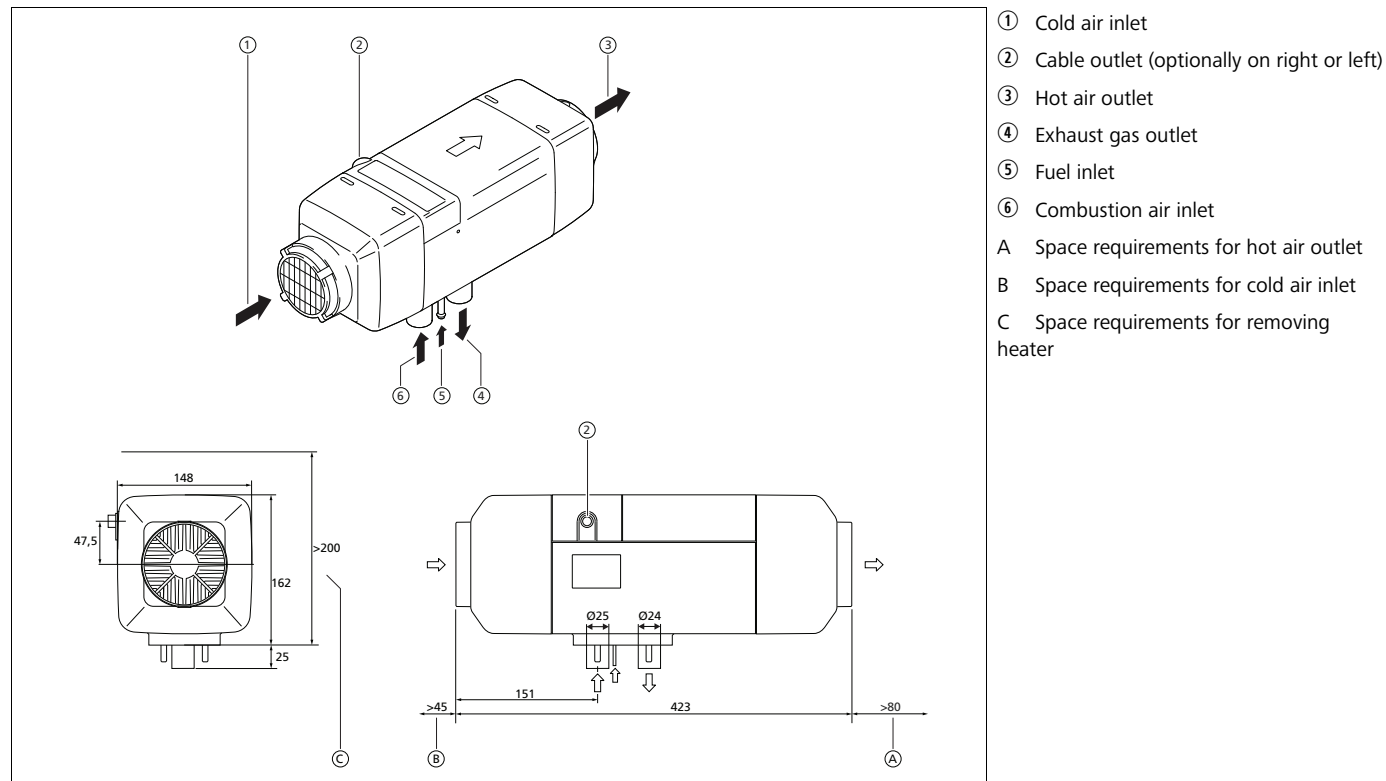
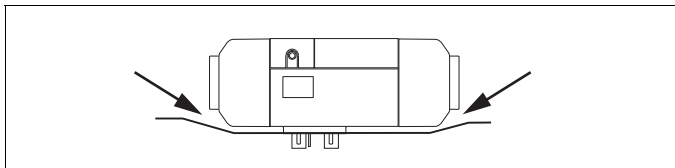

Fig. 3 Dimensions and space requirements [mm] Air Top Evo 40 / Air Top Evo 55
Fig. 7 Ensure ease of movement of all moving parts!
- Make sure that the casing of the heater is clear, i.e. does not make contact with any other parts, in installed position (see Fig. 7).
see Fig. 3 and Fig. 7